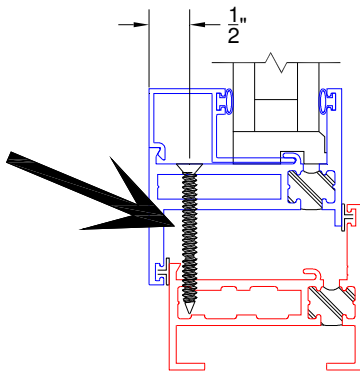

Figure C1:
2. Along the bottom [and depending on size, the sides / top] are fastener(s) for connecting the vent to the frame, remove the fastener(s) and save for later (Figure C1). While removing the fastener(s) be careful to not damage the glass.